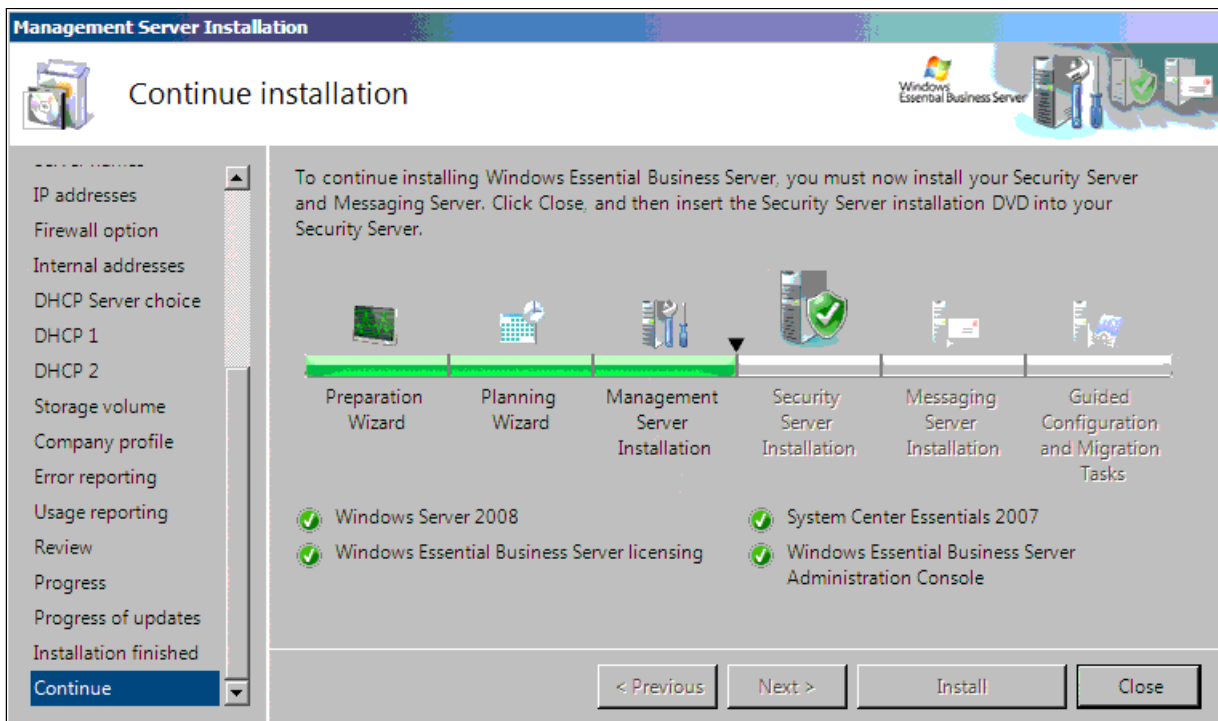

Figure 4-23 Continue installation page
33. The “Continue installation” panel (Figure 4-23) directs you to continue the installation on the Security Server, which is described in 4.4, “Installing the Security Server” on page 109. Click **Close**.